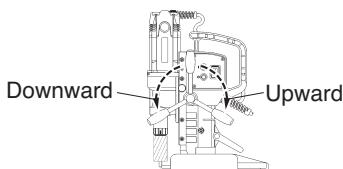

Fig. 10
(1) Bring the Drill Motor up by turning the Rod Handle clockwise. (Fig. 10)